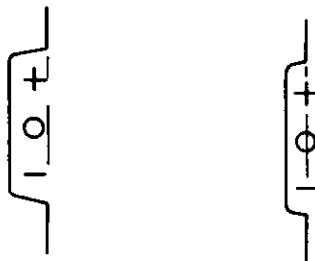

fig. 2
- the viewfield edge line goes through the center of indicator, Fig. 2.